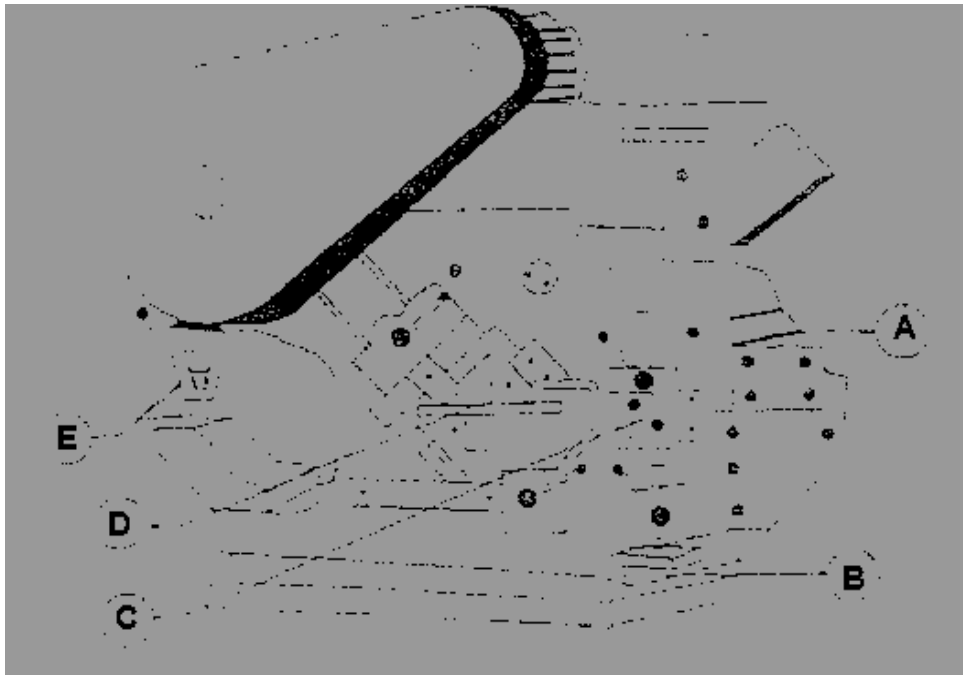

FIGURE 1
- 1.1 FIGURE 1, DIAGRAM SHEET A (attached), shows a punch, shear and cropping machine. Label the components indicated with the letters (A–E) and write the answer next to each letter (A–E) in the ANSWER BOOK. (5)